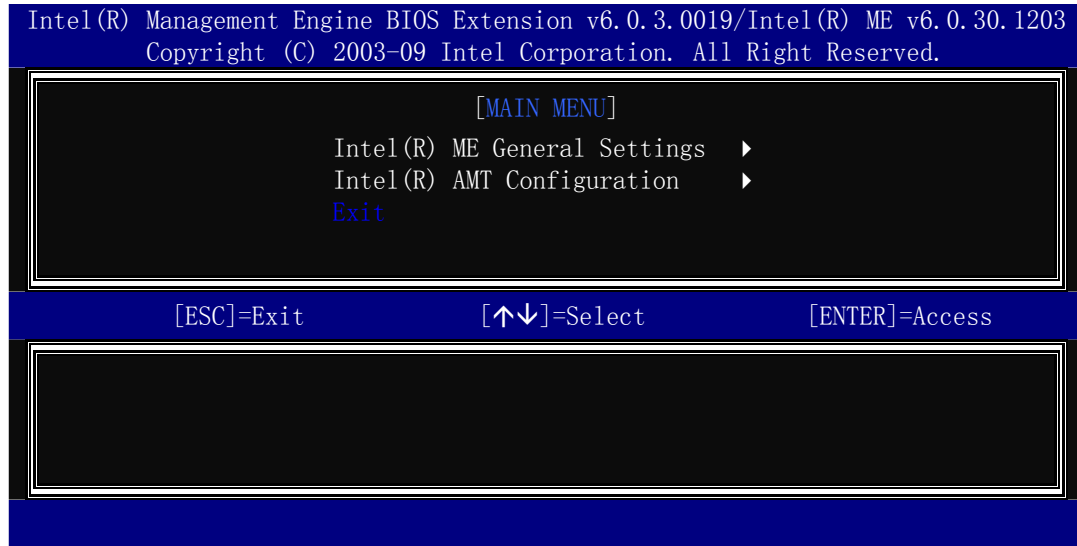

Figure A-8: Exit
Step 10: To exit the Intel® MEBx, return to the main menu and select Exit. (Figure A-8)